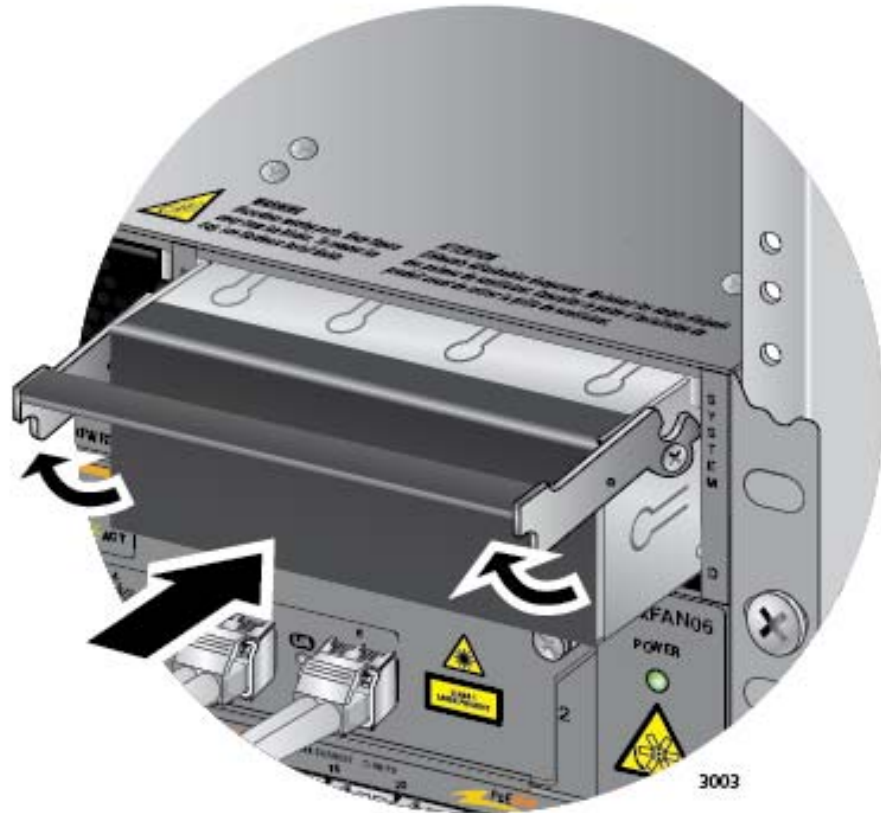

Figure 168. Installing a Blank Power Supply Slot Cover
5. Place the locking handle on the slot cover in the up position and slide the cover into the empty power supply slot. Refer to Figure 168 on page 270.